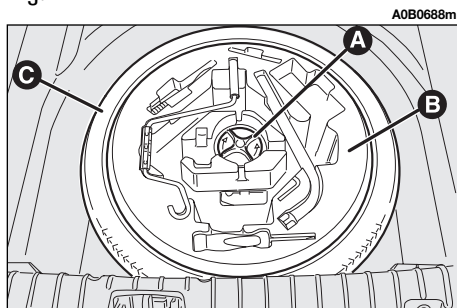

fig. 8
– loosen the clamping device **(A-fig. 8)**.
– take the tool container **(B-fig. 8)** out of the boot and take it near the wheel to be changed;
– take the spare wheel **(C-fig. 8)**;
- stow the container complete with tools on the compact spare wheel and secure everything with the clamping device (**A-fig. 8**).